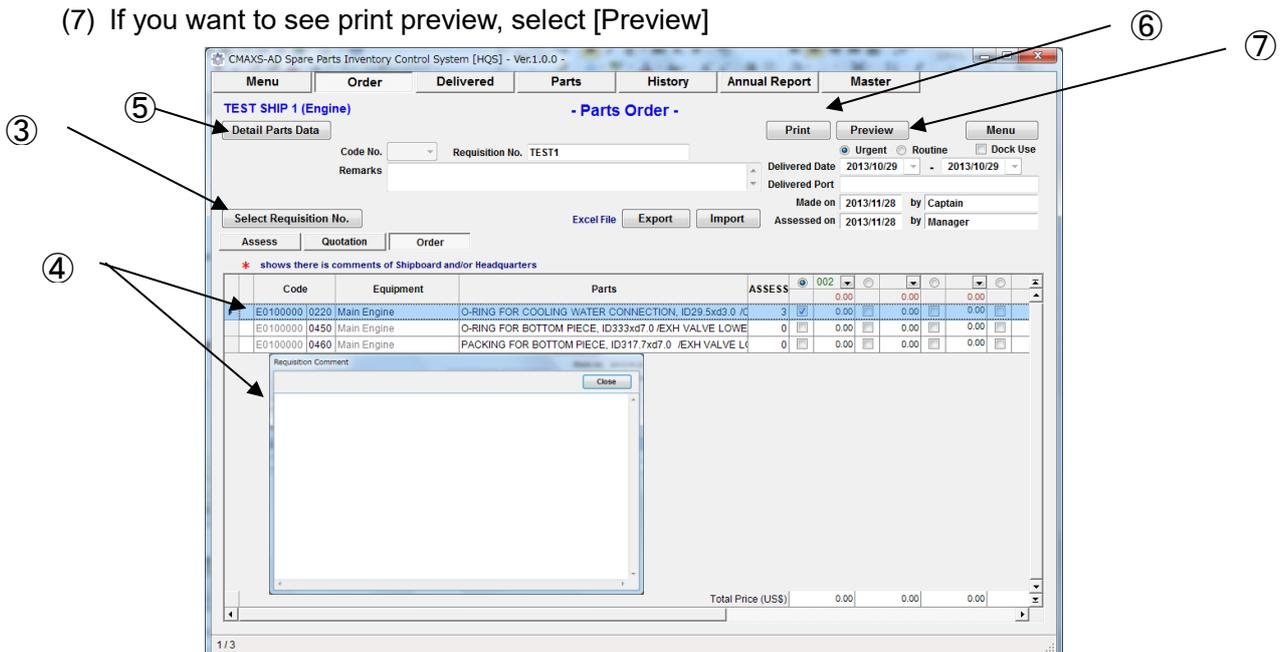

Fig.8-2 Order Screen
- (2) “Order Screen” (Fig.8-2) is displayed.
- (3) If you want to make Order Sheet from other import data, select [Requisition No.]
- (4) If there is a comment from shipboard, [\*] is shown on left side potion. Then select it, “Requisition Comment Screen” is displayed and it can be changed.